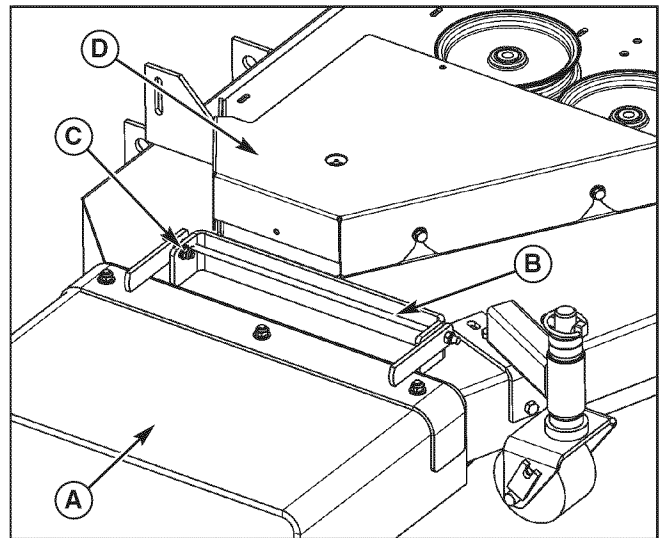

Figure 14. Remove Chute & Guard
1. Remove the discharge chute (A, Figure 14), chute mount rod (B) and mounting hardware.
2. Remove the chute lock bolt (C) and nut.
3. Remove the deck guard (D). Save the bolts and washers, as they will be required in a later step.